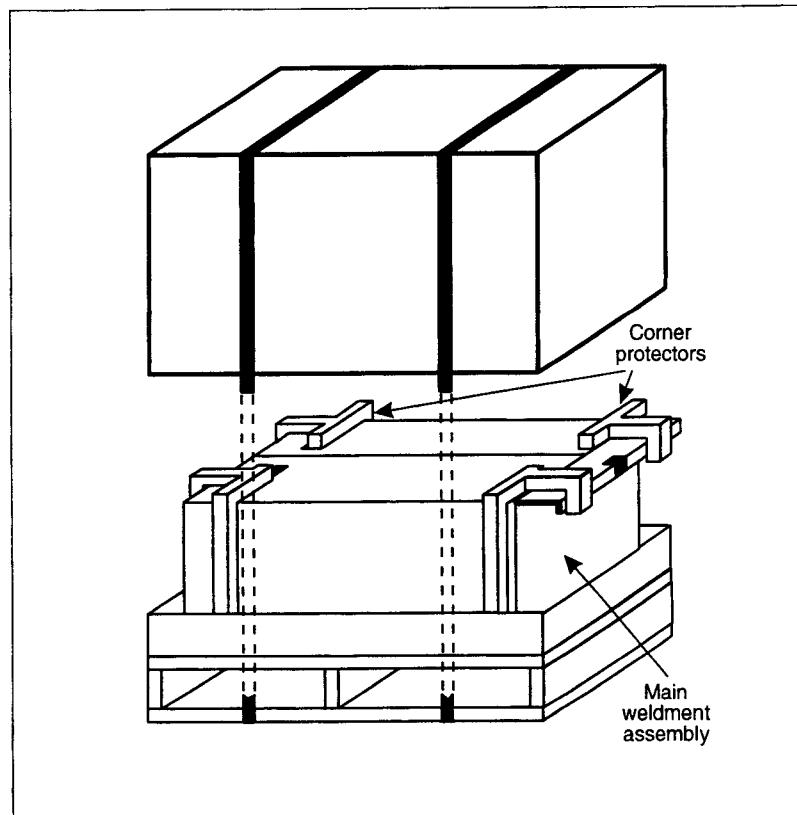

Figure 2-24. Remove Box
- a. Cut straps (2) and remove the outside plastic film. Remove the box as it is shown in Figure 2-24.
- b. Push the foam corner protectors to the side and open the doors in the Main Weldment assembly (Figure 2-24).
- g. Remove the foam corner protectors (Figure 2-24). Pull up the corners of the Weldment assembly to ease the remotion of the protectors.